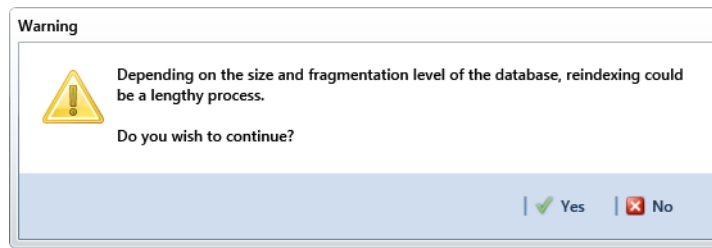

Figure 17-4. Warning Message
- 3 When a warning message opens, click  **Yes** to continue the reindexing process (Figure 17-4).